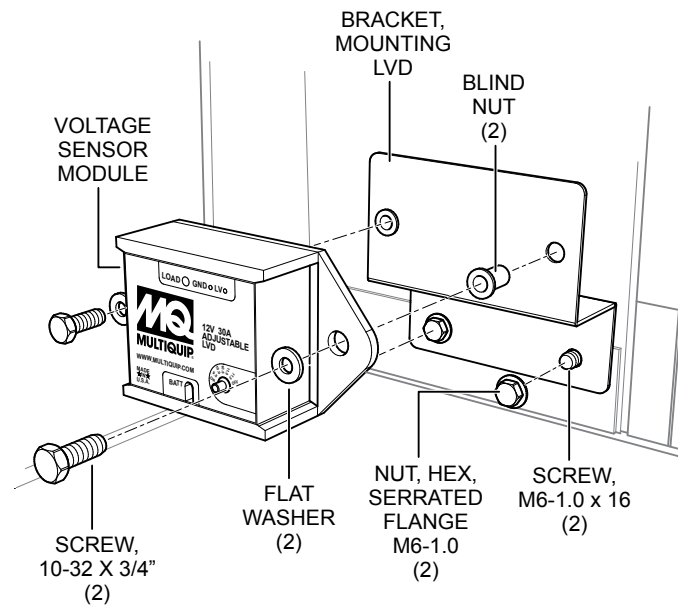

Figure 5. LVD Module and Bracket Installation
2. On the inside of the generator, align the LVD mounting bracket (P/N 14270) with the two open screw holes (Figure 5) from Step 2.
3. Using a 10mm open-ended wrench, secure the LVD mounting bracket (P/N 14270) to the generator frame (Figure 5) using two M6-1.0 X 16 screws (P/N 42542) and M6-1.0 serrated hex nuts (P/N 42352).
5. Insert the two blind nuts (P/N 29797) into the two open holes (Figure 5) on the LVD mounting bracket (P/N 14270).
6. Using a 3/32" or 5/32" open-ended wrench, secure the LVD module (P/N 14056) to the LVD mounting bracket (P/N 14269/14270) using two 10-32 x 3/4" screws (P/N 32527), and #10 flat washers (P/N 2203) as shown in Figure 5.